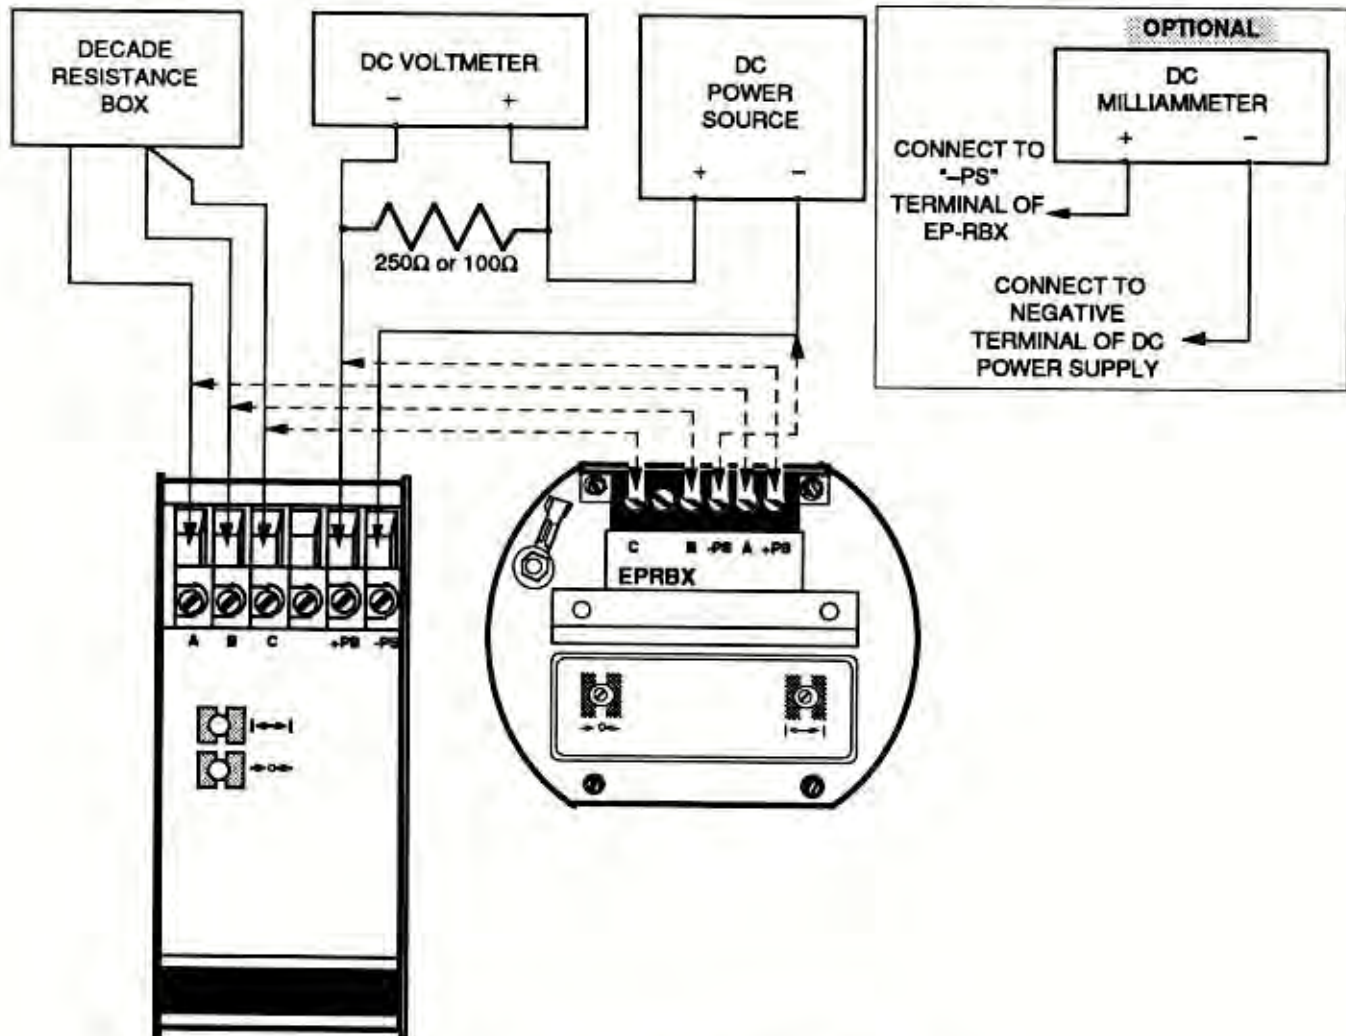

Figure 6. EP-RBX Calibration Setup
7. Connect unit as shown in figure 6. Apply appropriate input power, and allow 15 minutes for setup to stabilize.